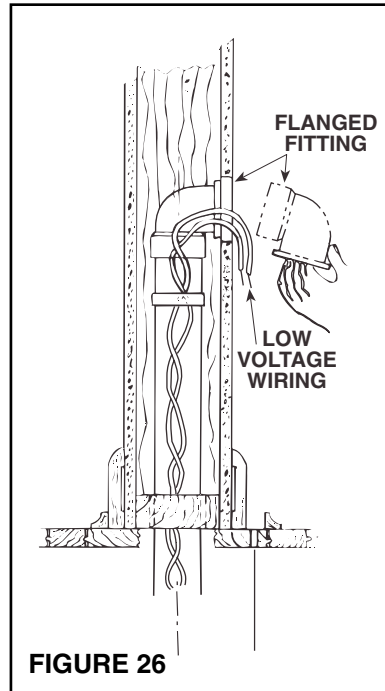

FIGURE 26
7. Apply cement to tube and install flanged wall fitting. Make sure fitting is well seated and sealed (Figure 26).